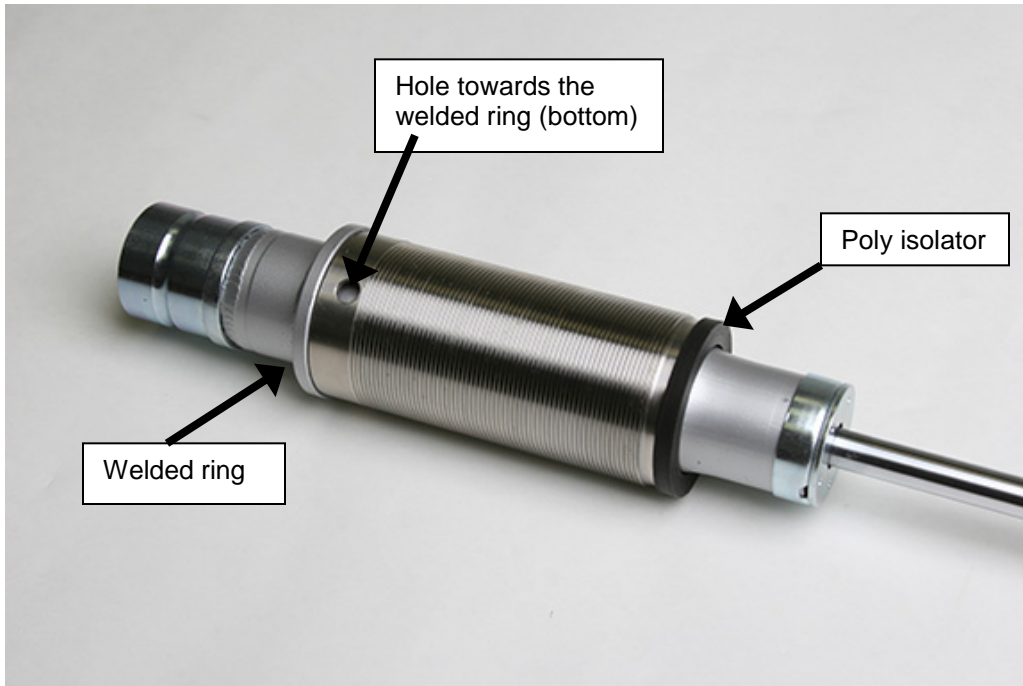

Figure 2
5. Next, place the threaded sleeve over the shock body, with the holes in the sleeve body toward the bottom of the shock. The sleeve fits on the welded ring. Install the threaded sleeve's poly isolator over the shock and into the threaded sleeve, this will require some hand pressure to push into position. (Figure 2)
16. Next, place the threaded sleeve over the shock body, with the holes in the sleeve body toward the bottom of the shock. The sleeve fits on the welded ring. Install the threaded sleeve's poly isolator over the shock and into the threaded sleeve, this will require some hand pressure to push into position. (Figure 2)